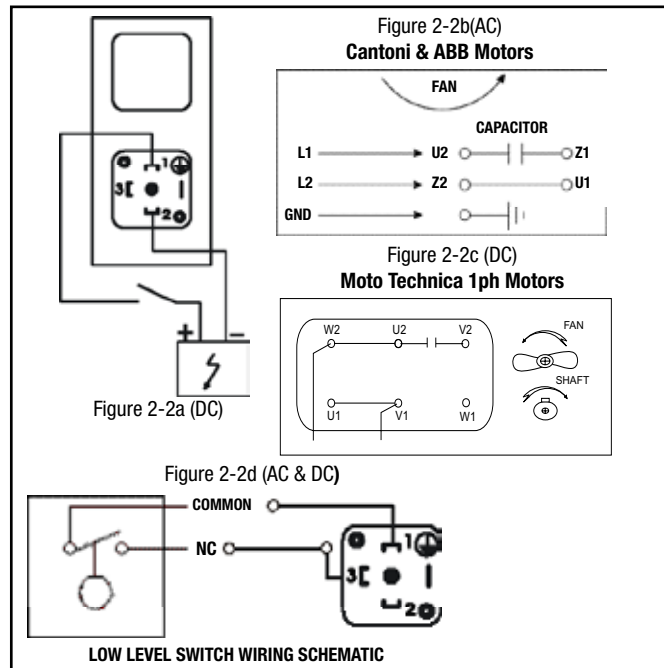

Figure 2-2
2.2.1 Electrical connections are shown in **Figure 2-2**